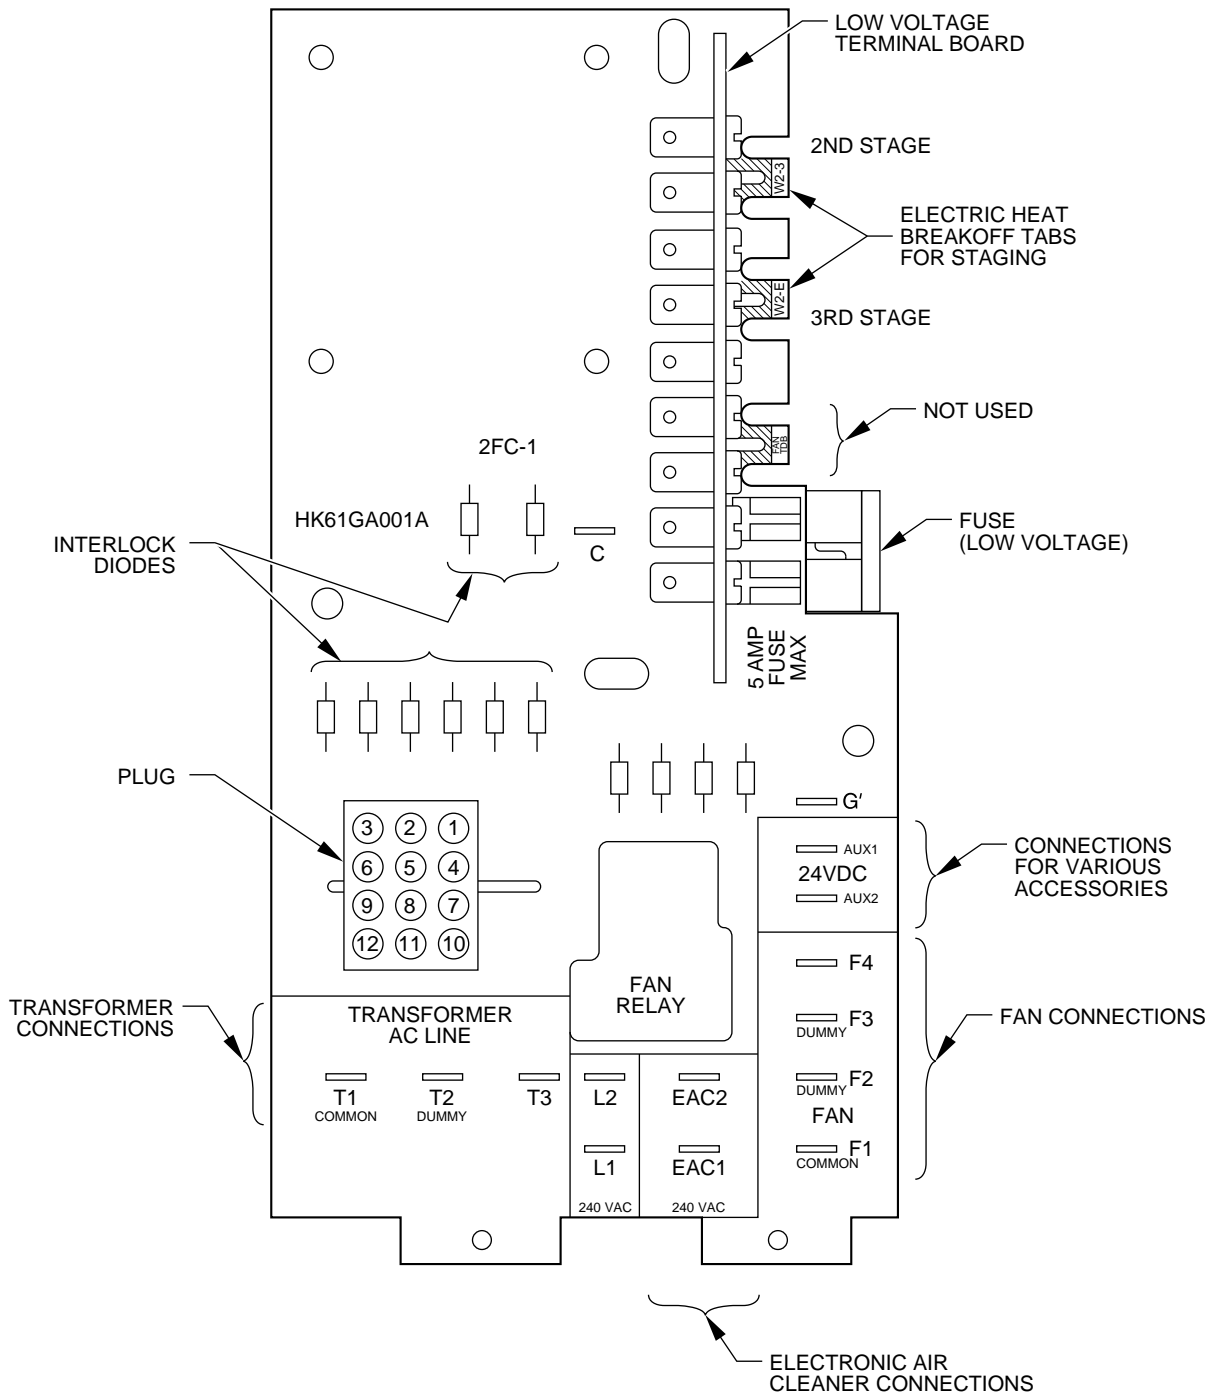
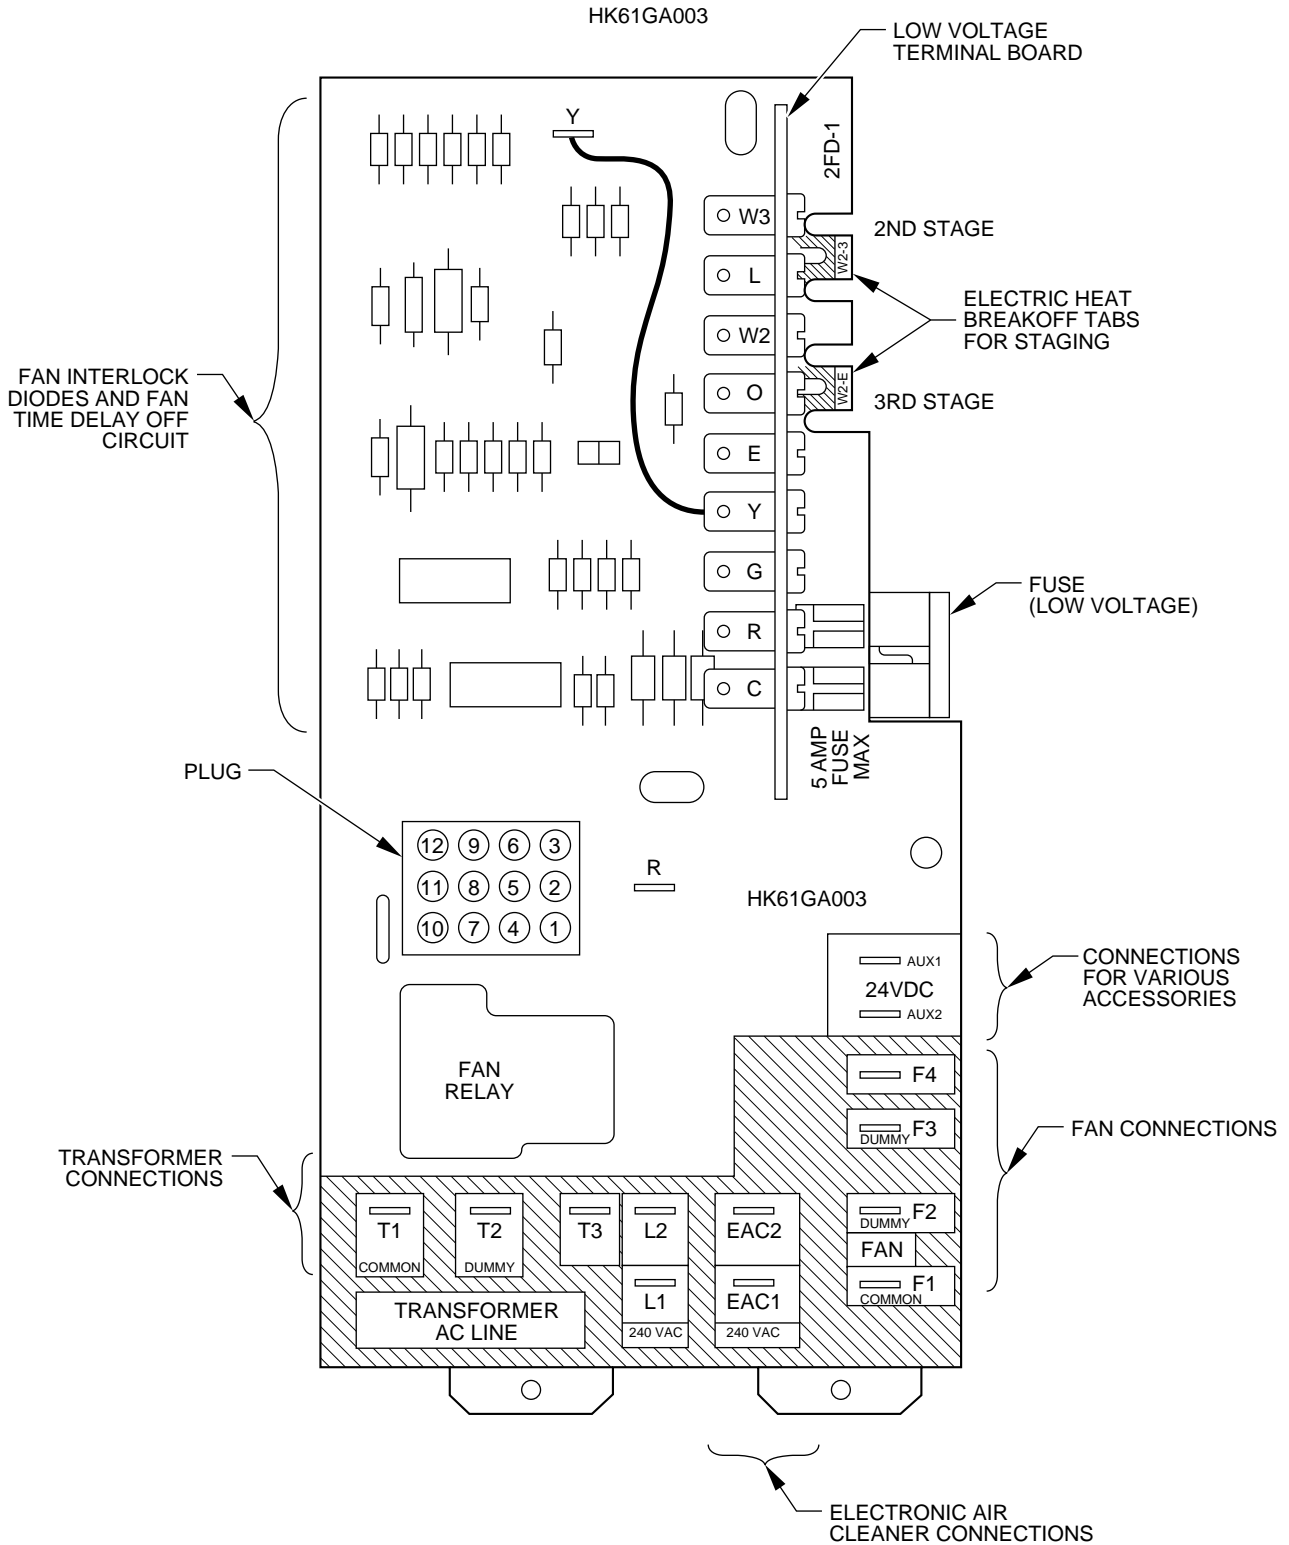

Fig. 5—HK61GA001 Printed-Circuit Board
Fig. 6—HK61GA003 Printed-Circuit Board
Layout of the actual printed-circuit boards are depicted in Fig. 5 and Fig. 6.
3. Check the low-voltage fuse shown in Fig. 5 and Fig. 6. If the fuse is blown, replace it. The transformer cannot supply power to the board with the fuse blown or loose. If the fuse blows when the unit has power applied to it, the system most likely has 1 of the following problems: